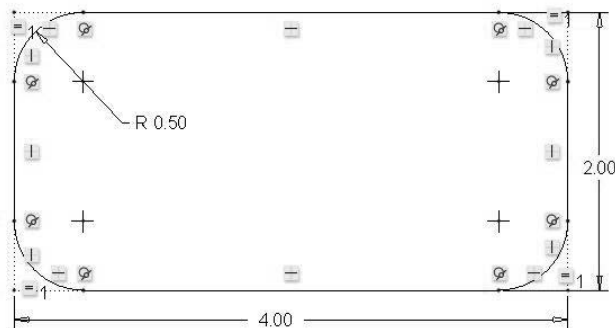

Figure 3-38 Rounded Corners
Step 42: Create a rectangle, then use  to create four rounded corners. Use  to make all four rounded corners the same radius. Adjust the dimensions so the rectangle is 4.00 inches long and 2.00 inches high with 0.50-inch radius corners. There should be only three dimensions present on the sketch. See Figure 3-38. Remember that    stand for horizontal, vertical, and tangent.